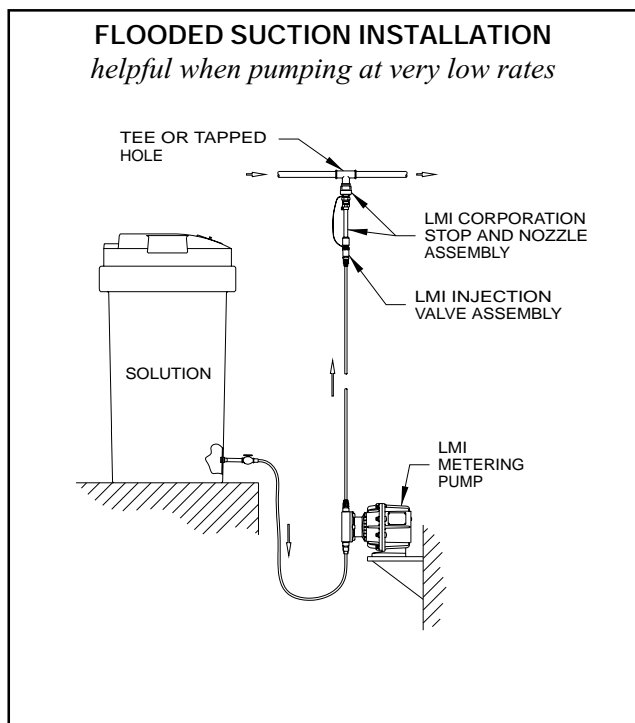

Figure 1
- B. Mount pump as shown below. Secure pump to shelf with 5/16" bolts through the four (4) holes in the pump base. Shelf must be able to support 50 lbs minimum (23 kg).
- C. Figures 1 and 2 (below) show typical metering pump installation methods. Note location of injection check valve which is most important. Refer to separate Liquid Handling Assembly Instructions Section A regarding installation of injection check valve.